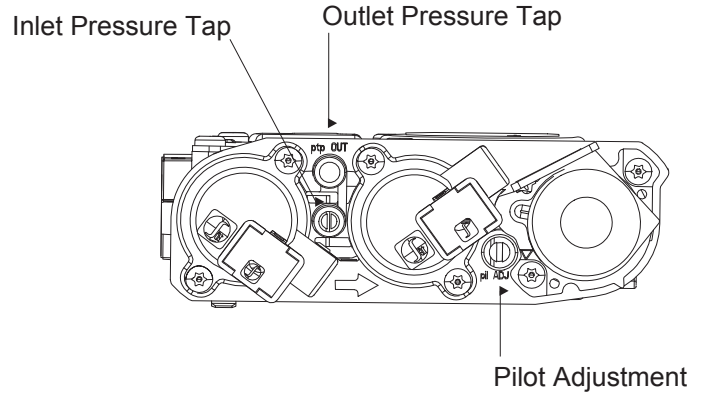

Figure 34 - Gas Pressure Check at Gas Valve
4. To check gas pressures at valve, turn captured screw counter clockwise 2 or 3 turns and then place tubing to pressure gauge over test point. Turn unit to high. See *Figure 34*. After taking pressure reading, be sure and turn captured screw clockwise firmly to reseal. Do not over torque. Check test points for gas leaks.